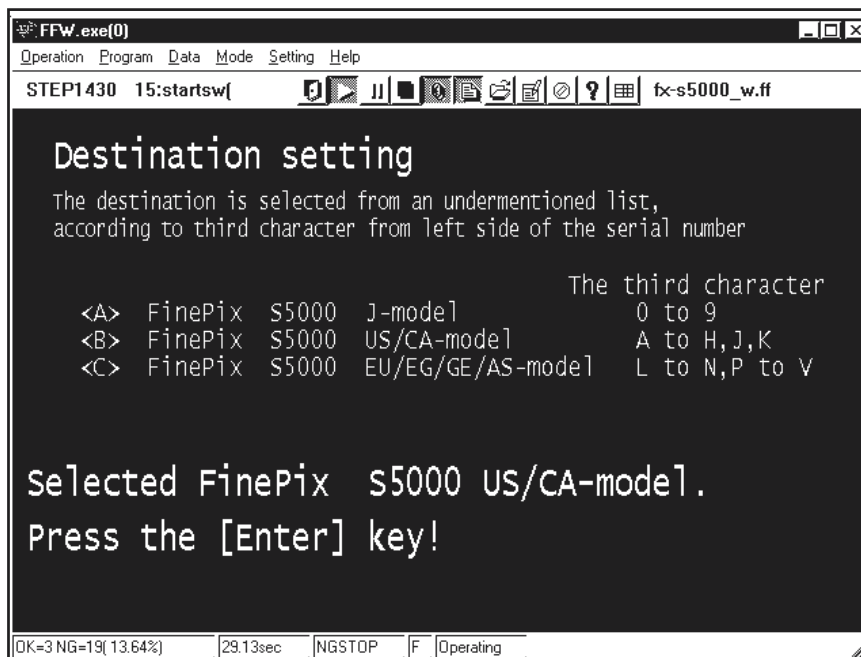

Fig.39
---> The **[Destination Selected Screen (Fig.39)]** is appears.